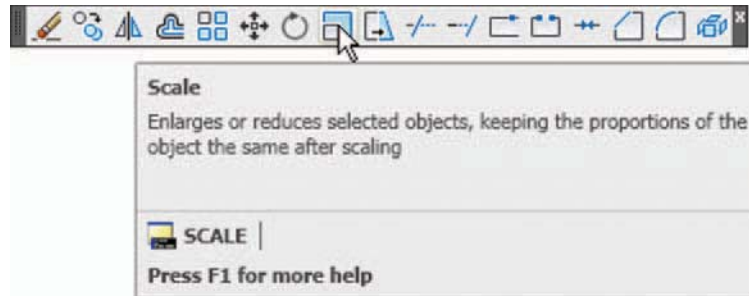

Fig. 5.28 The **Scale** tool icon from the **Modify** toolbar
- Call **Scale** – *left-click* on its tool icon in the **Home/Draw** panel (Fig. 5.28), *pick* its tool icon in the **Modify** toolbar, *pick* **Scale** from the **Modify** drop-down menu, or *click* its tool in the **Modify** toolbar, or *enter* **sc** or **scale** at the command line which then shows: